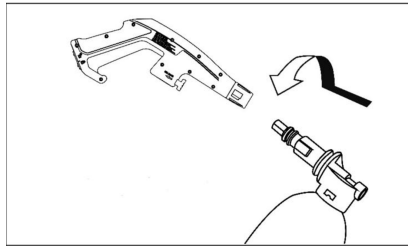

Figure 11: How to connect the detergent bottle to the Trigger Gun (1).
- Connect the detergent bottle to the Trigger Gun (1) as shown in Figure 11 using the bayonet fitting.